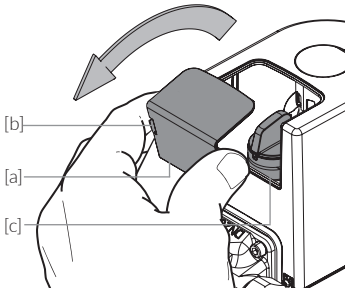

Fig. 8.1
- / Fig. 8.1: Release the flap [a] by pressing lightly on the two snap hooks [b] on the outer edge. Remove the flap.